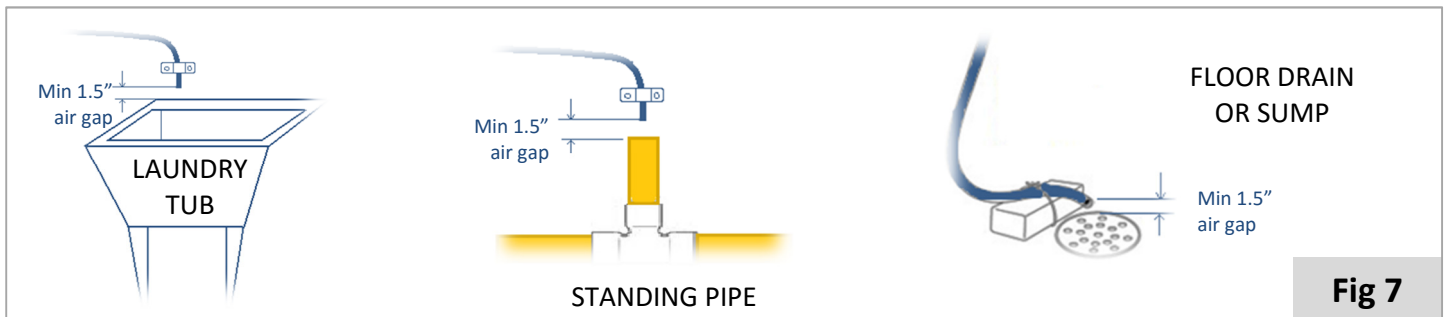

Fig 7
- You can run the drain hose from the unit to the ceiling joists (max 8 ft ceiling) and run it to the nearest laundry tub or drain pipe. This can be ran up overhead or down along the floor. If running drain line more than 30 feet overhead, increasing the line size to 3/4" will be required. Please follow your local health dept. Codes for where to run filter discharge water. NEVER MAKE A DIRECT CONNECTION INTO A WASTE WATER DRAIN. A PHYSICAL AIR GAP OF AT LEAST 3" SHOULD BE USED TO AVOID BACTERIA AND WASTEWATER TRAVELLING BACK THROUGH THE DRAIN LINE INTO THE CCF FILTER (**Fig 7**).